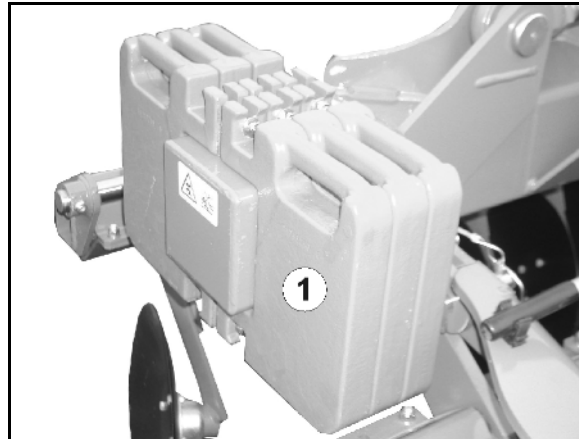

Fig. 33
Before making the adjustment, pull the fastening bolt (Fig. 33/2).
After the adjustment, hold the spacer elements (Fig. 33/1) in place using the fastening bolt and secure them using the clip pin (Fig. 33/3).
2. Swivel out the rear spacer elements (starting with both stop washers (Fig. 33/4) on both booms).
2. Swivel out the front spacer elements (starting with both stop washers (Fig. 33/4) on both booms).